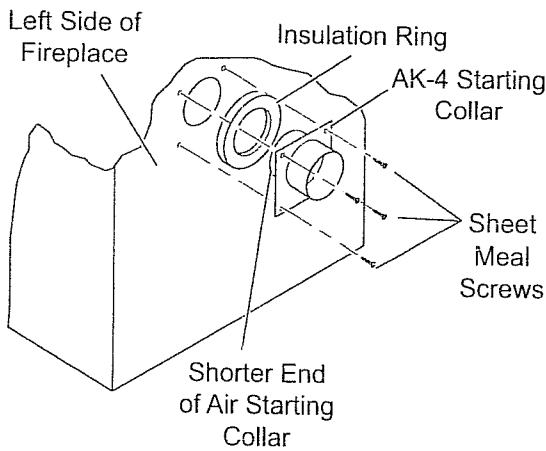

Figure 18 - Attaching Outside Air Starting Collar and Insulation Ring to Left Side of Fireplace
3. Place the starting collar (4") into the hole on the side of fireplace. Fasten it in place with the four sheet metal screws provided. *See Figures 18 and 19.*